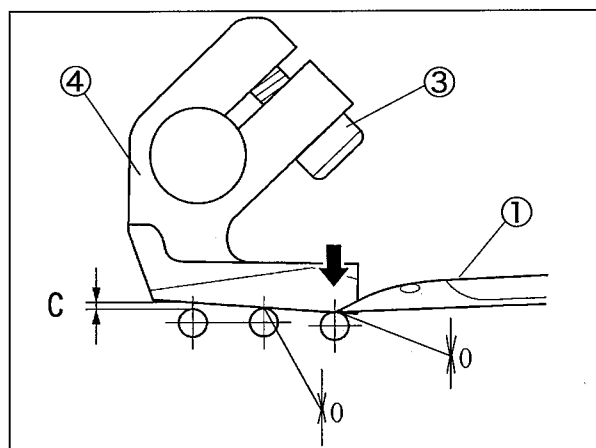

Fig. 59
- (1) When the looper ① moves from the right to the left, and the looper ① tip meets the right needle, the needle guard(rear) ⑤ pushes the right needle so that the clearance between the right needle and the looper ① is 0. (Fig. 59)
- (2) When the looper ① tip meets the middle needle, adjust the angle of the needle guard (rear) ④ so that the clearance between the middle needle and the looper ① is 0. (Fig. 59)